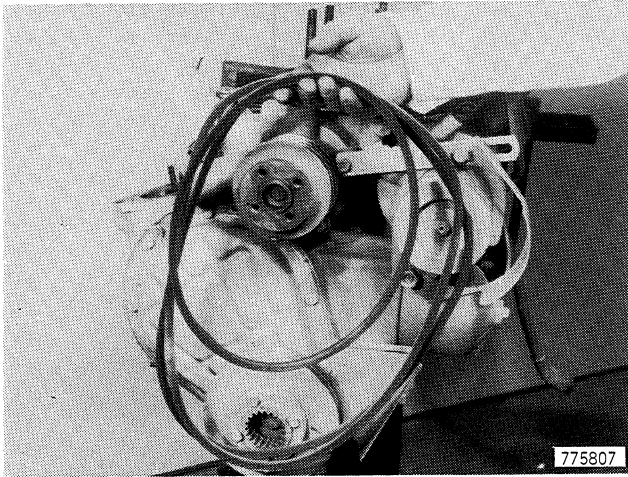

Figure 61
5. Push the steering pump up and remove the belts from the engine, Figure 61.